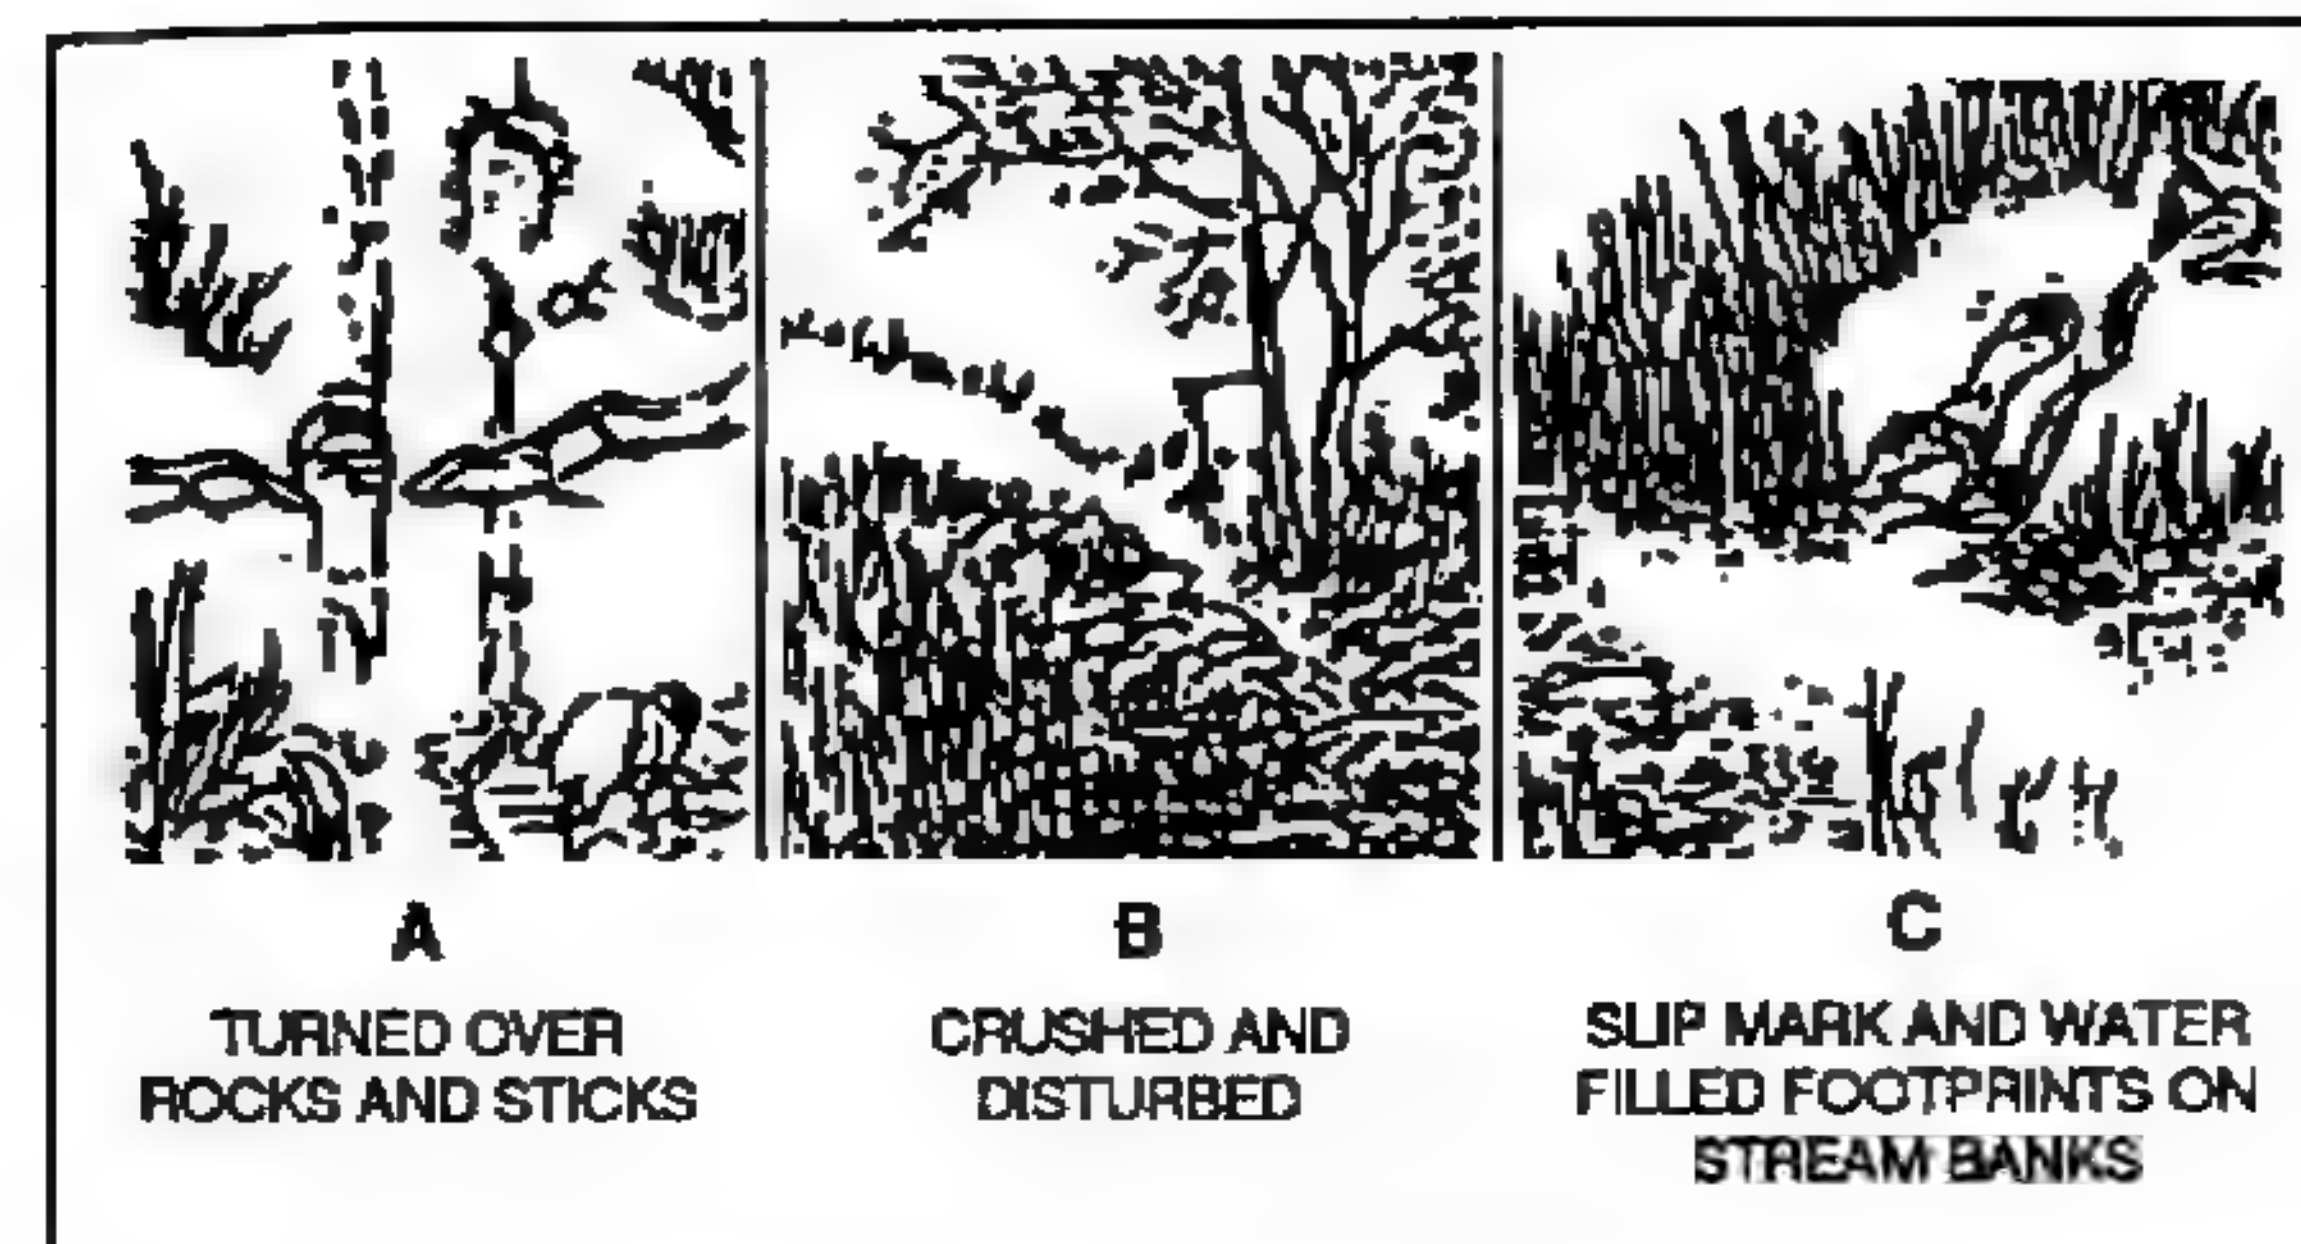

Figure 8-4. Other displacements.
c. **Recognizing Other Signs of Displacement.** Foliage, moss, vines, sticks, or rocks that are scuffed or snagged from their original position form valuable indicators. Vines may be dragged, dew droplets displaced, or stones and sticks overturned (A, Figure 8-4) to show a different color underneath. Grass or other vegetation may be bent or broken in the direction of movement (B, Figure 8-4).
(1) The sniper inspects all areas for bits of clothing, threads, or dirt from footgear that can be torn or can fall and be left on thorns, snags, or the ground.
(2) Flushed from their natural habitat, wild animals and birds are another example of displacement. Cries of birds excited by unnatural movement is an indicator; moving tops of tall grass or brush on a windless day indicates that someone is moving the vegetation.
(3) Changes in the normal life of insects and spiders may indicate that someone has recently passed. Valuable clues are disturbed bees, ant holes uncovered by someone moving over them, or torn spider webs. Spiders often spin webs across open areas, trails, or roads to trap flying insects. If the tracked person does not avoid these webs, he leaves an indicator to an observant sniper.
(4) If the person being followed tries to use a stream to cover his trail, the sniper can still follow successfully. Algae and other water plants can be displaced by lost footing or by careless walking. Rocks can be displaced from their original position or overturned to indicate a lighter or darker color on the opposite side. The person entering or exiting a stream creates slide marks or footprints, or scuffs the bark on roots or sticks (C, Figure 8-4). Normally, a person or animal seeks the path of least resistance; therefore, when searching the stream for an indication of departures, snipers will find signs in open areas along the banks.